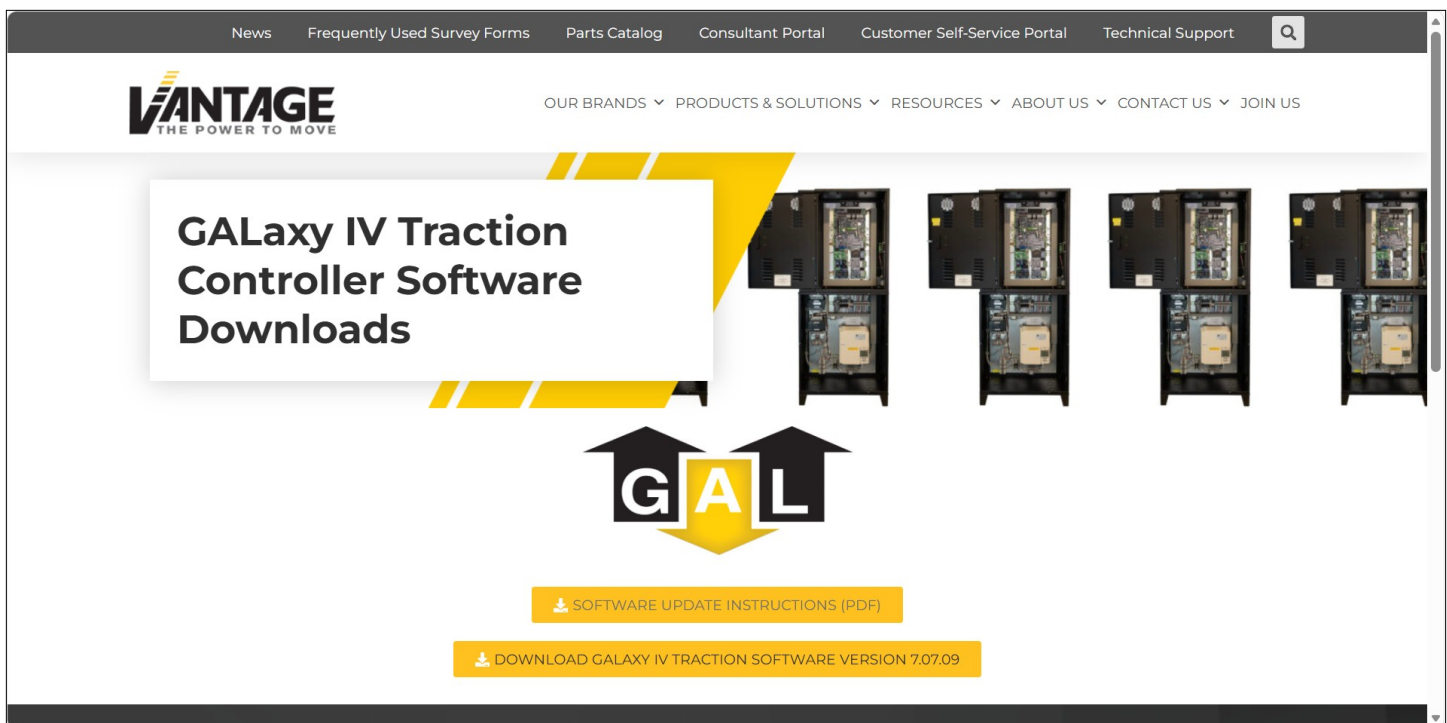

Figure 3: Vantage website, GALaxy IV traction software download.
2. Click on "DOWNLOAD GALAXY IV TRACTION SOFTWARE VERSION..." (reference Figure 3).